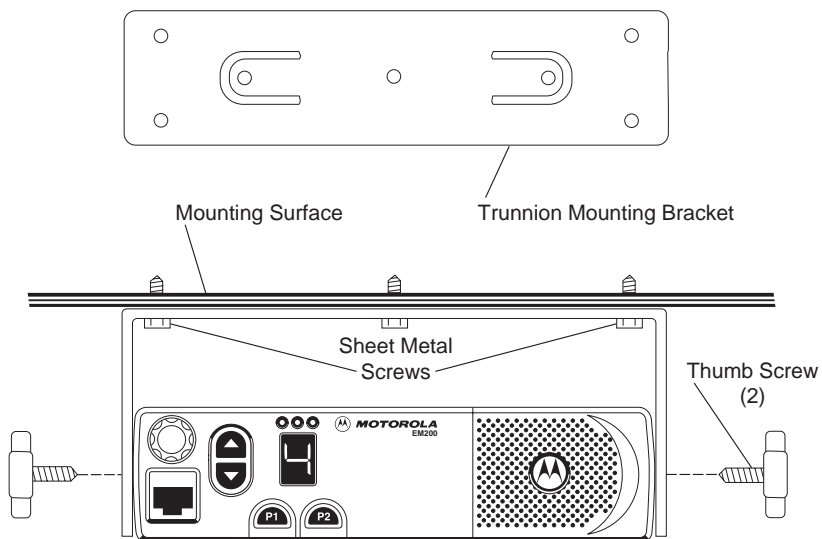

Figure 3-1. Transmission Hump Mounting (Top)
1. Select either the transmission hump or an open underneath portion of the dash to mount your radio. (See Figure 3-1.) When mounting the trunnion on the transmission hump, be careful that the transmission housing is not affected.
4. Secure the trunnion mounting bracket to the mounting surface with the three self-tapping screws provided. (See Figure 3-1.) Allow 3/4" clearance in front of the bracket so the locking bracket can be inserted in the radio.